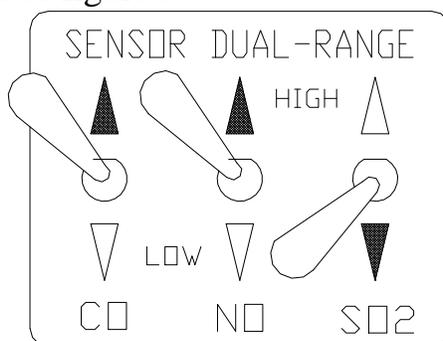

FIGURE 3
sensitivity of the sensor. See figure 3.
- b. A 13" piece of extension inconel tubing to be used with stacks having a diameter larger than 24". The extension tubing screws on the above piece to increase the effective probe length to 24". Figure 3 below shows the various components of the probe.